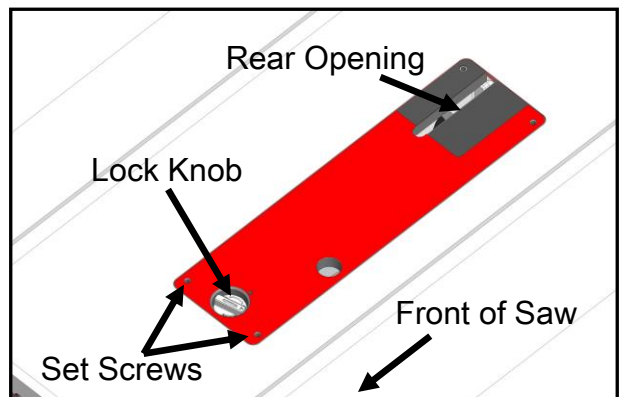

Fig. 7
In Fig. 7
2. Loosen the Lock Knob Fig.7 on the Table Insert then remove the table insert and blade guard/riving knife, depending on what is installed.